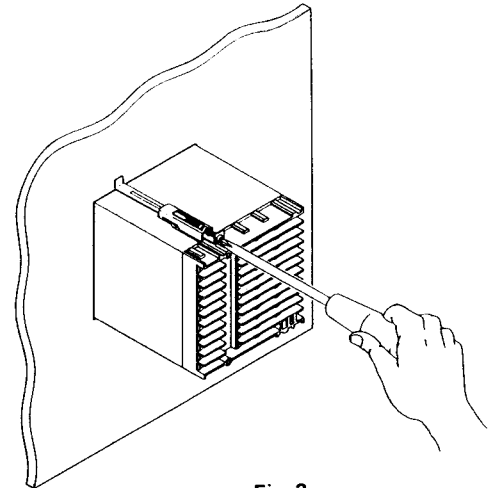

Fig. 2
- ④ Then tighten the mounting bracket setscrew from the rear with a Phillips screwdriver (Fig. 2). Do not overtighten the bracket setscrew.
- ⑤ Engage the other bracket with the slots in the same way as in items ③ and ④.